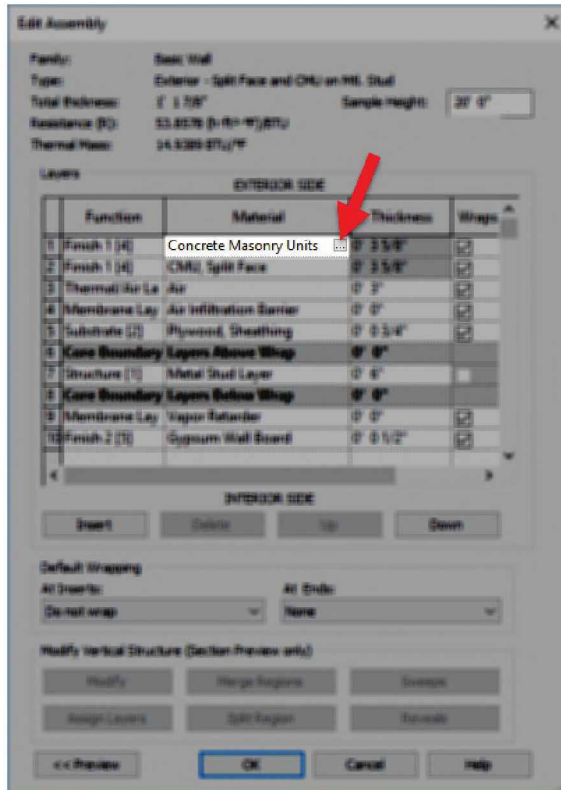

FIGURE 15-2.4 Exterior wall assembly
9. Notice the material selected for the exterior finish is **Concrete Masonry Units**; click in that cell (Figure 15-2.4).